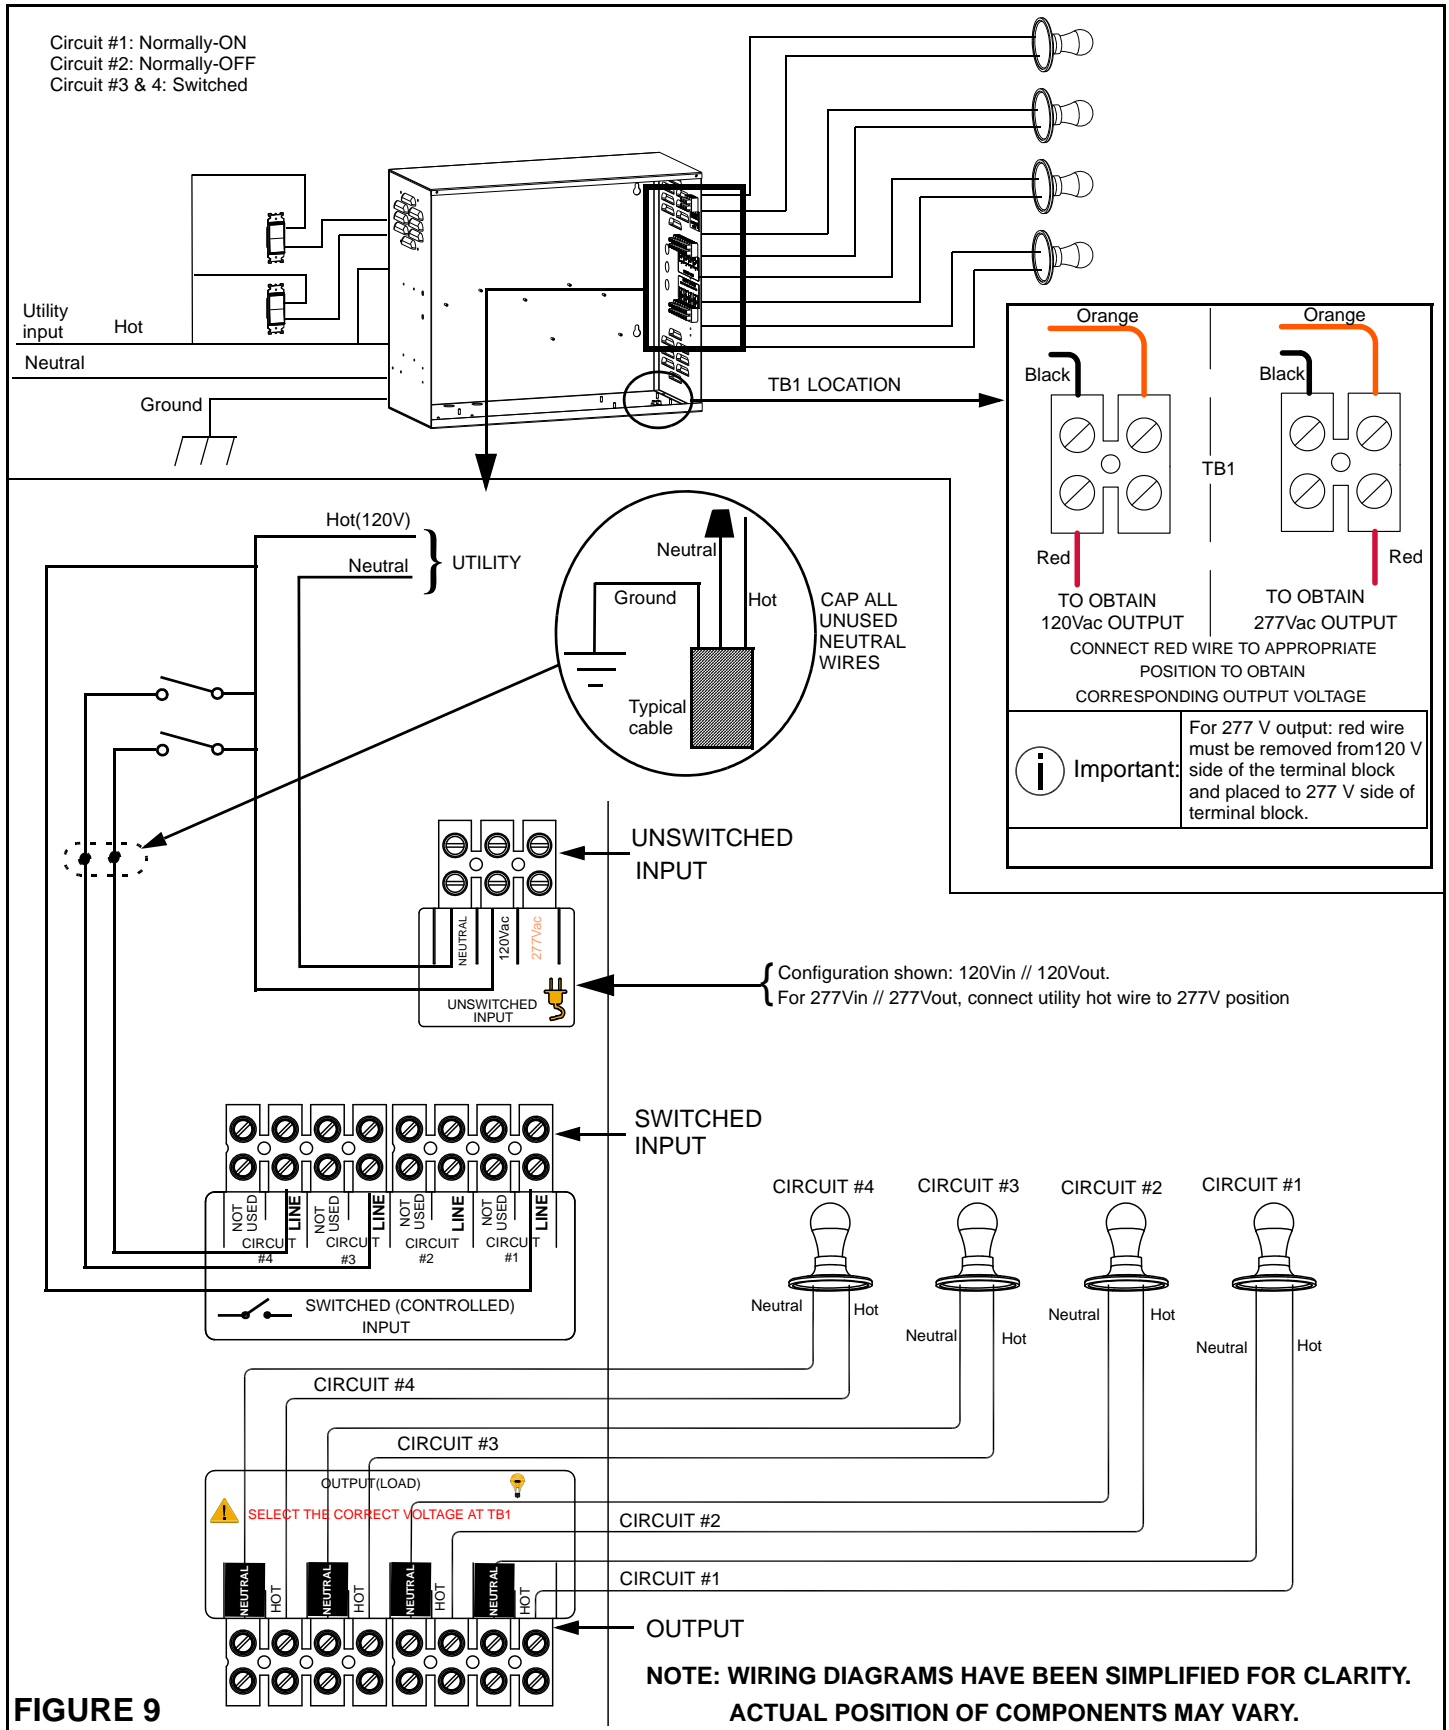

FIGURE 9
- d. **Combination of Normally-On, Normally-Off and Switched Load Operation** (Refer to Figure 9 for wiring details) - Each circuit in the Mini Inverter with the 4C option can be configured in one of the previously described modes of operation.